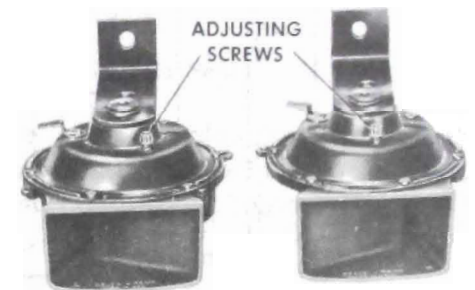

Figure 120-15 - Matched Horn Set
A plastic cancelling cam assembly fits over the steering shaft; the lower end of the cam contacts the steering shaft upper bearing and the upper face of the cam engages the steering wheel hub, causing the cam to turn with the wheel. At the outer edge of the cam there is a horn contact ring in a position to depress the horn brush. See Figure 120-15.
3. Adjust to specified current draw if necessary, by turning adjusting screw clockwise to decrease or counter-clockwise to increase current draw. Turn only 1/4 of a turn at a time. If adjustment loosens screw excessively, it may be staked with a prick punch. See Figure 120-15.